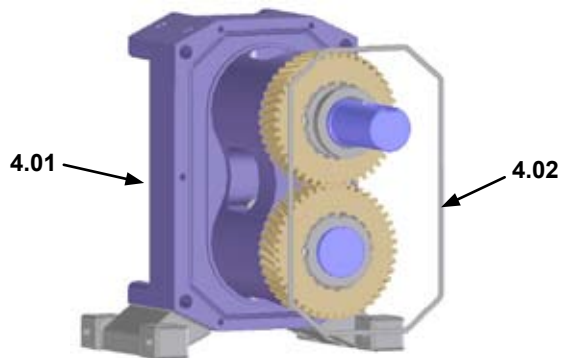

FIGURE 65
- Install the bearing housing O-ring (4.02) into the bearing housing (4.01). See Figure 65.